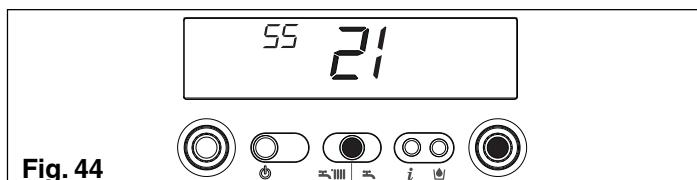

Fig. 44
- press ENTER to confirm the new value. The digits stop flashing (fig. 44)